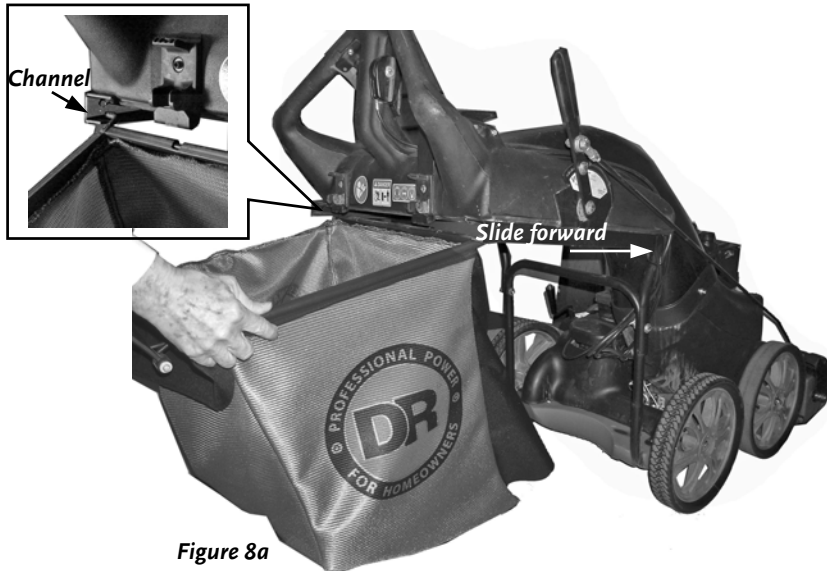

Figure 8a
1. Place the Left and Right ends of the Debris Bag frame into the Left and Right Channels in the Top Shield Assembly (**Figure 8a**).
2. Slide the Debris Bag all the way forward in the Top Shield Assembly channels (**Figure 8a**).